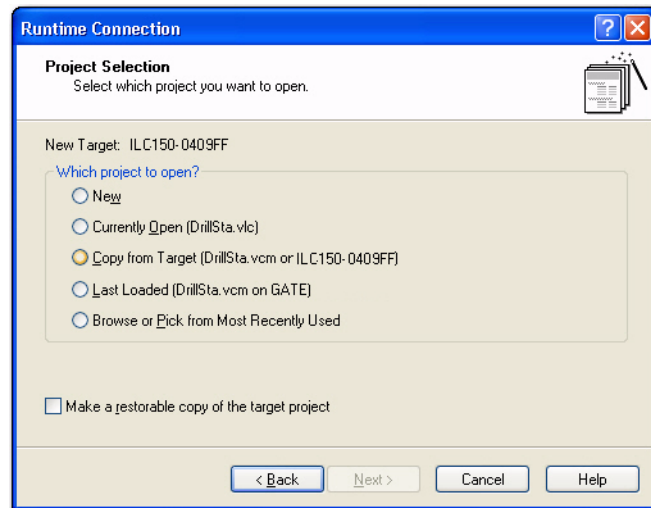
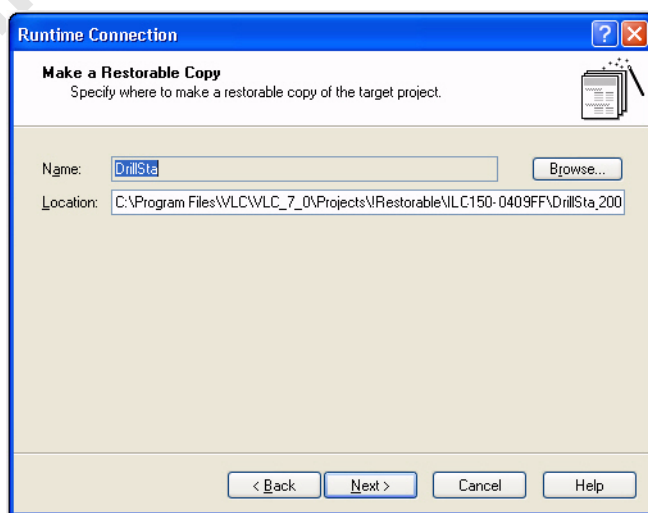

Figure 3-2 The second page of the “Runtime Connection” wizard.
Figure 3-6 The “Make a Restorable Copy” of the “Runtime Connection” wizard.
6. If you selected “Make a restorable copy of the target project”, on the “Project Selection” page (Figure 3-2 on page 3-6), the “Runtime Connection” wizard displays the page shown in Figure 3-6. The “Make a Restorable Copy” page of the “Runtime Connection” wizard lets you enter an absolute path or browse for a directory that you want to use to save the restorable copy. By default, the path includes the folder “IRestorable” followed by a folder for the name of the target, and then a folder that is the name of the project. Click the “Next” button, and then continue with step 7.